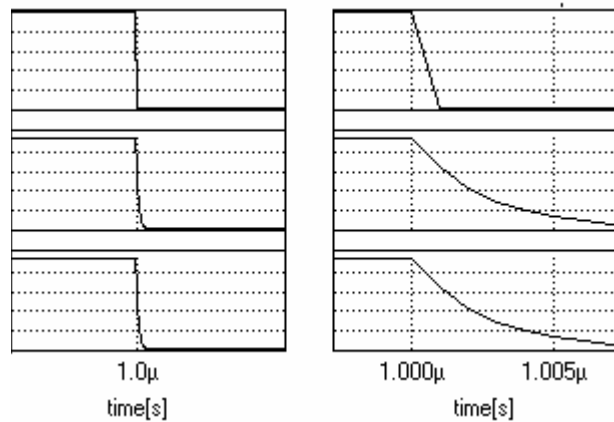

Fig. 9.12
13. Zooming up the particular areas as shown below may identify the distortion levels. You will observe that the signal that comes out of the trace is different from the one that entered it (Refer Fig.9.12).